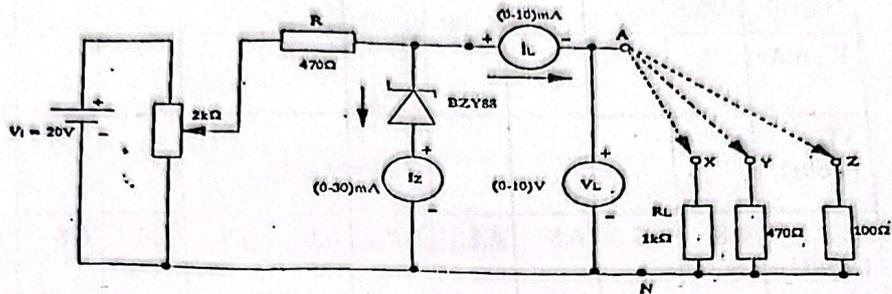

Fig. 1: Voltage regulator circuit using zener diode.
- (i) Connect the circuit of Fig. 1 with  $V_i = 20\text{V}$  fixed and load,  $R_L = 1\text{k}\Omega$  connected (by linking A to X).
- (v) Meanwhile, switch off the dc power supply. Do not disconnect the whole circuit of Fig. 1. Replace only the (0-50) mA meter with the (0-10) mA meter.
- (i) Connect the same circuit shown in Fig. 1 with  $R_L = 1k\Omega$